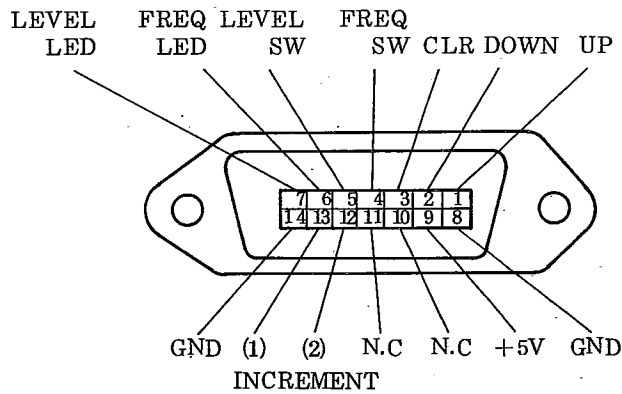

Fig. 7-1 Connector pin assignment
- * Start and end addresses for sequential recall of assorted preset data (see paragraph 4-9, (4)).
- * Digit to be altered for frequency modification (see paragraph 4-5, (3)).
- * Digit to be altered for output level modification (see paragraph 4-6, (4)).
- (c) Connect the cable to the MEMORY CONTROL connector on the rear panel. Fig. 7-1 shows the connector pin assignment. Use a 14-pin shielded plug--AMPHENOL-DDK plugs (Part No. 57FE-314-202W) with 2-meter flat cable, for example.